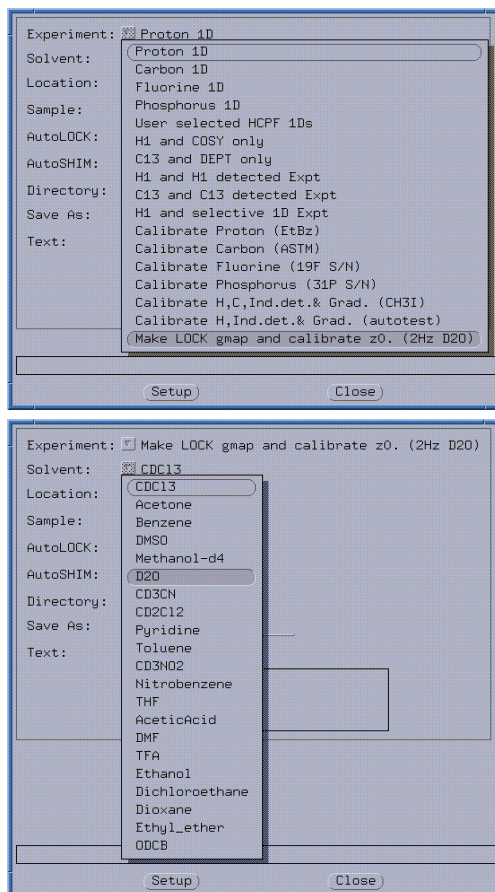

Figure 27. GLIDE Calibrate LOCK
3. Right click the **Experiment** drop-down menu and select **Make Lock gmap and calibrate Z0 "(2 Hz D2O)"**, as shown in Figure 27.
4. Right click the **Solvent** drop-down menu and select **D2O** as shown in Figure 27.